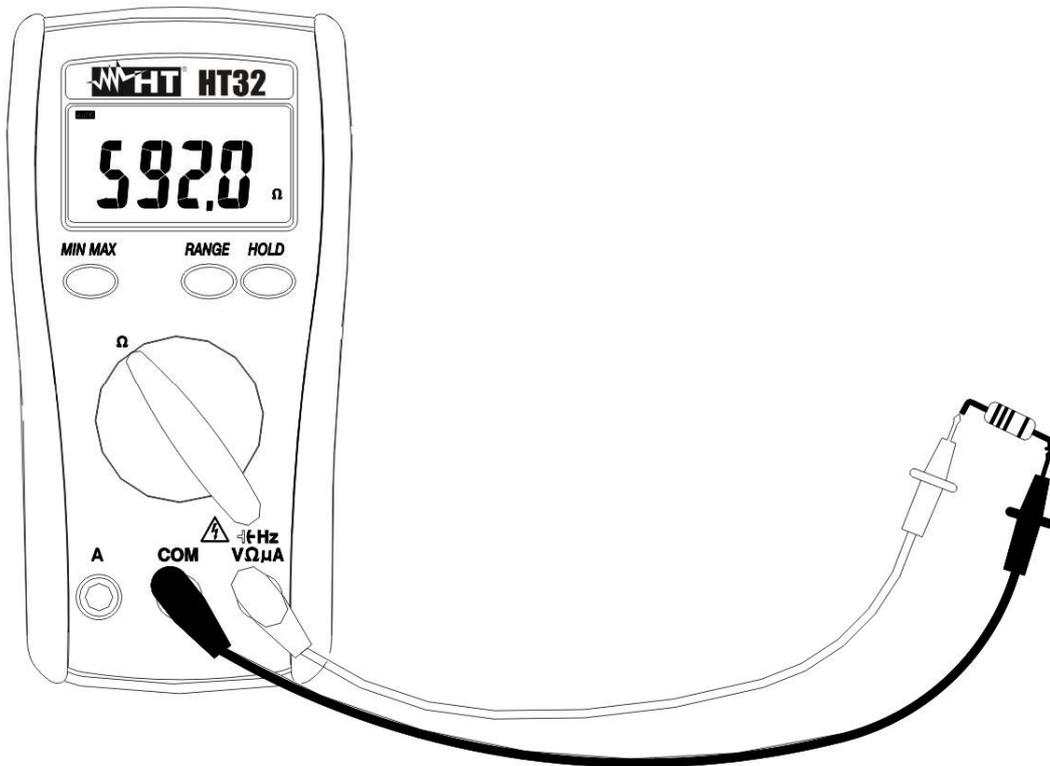

Fig. 7: Resistance measurement
2. Insert the test leads into the jacks, the red plug into \rightarrow HzV Ω μ A jack and the black plug into COM jack (Fig. 7).